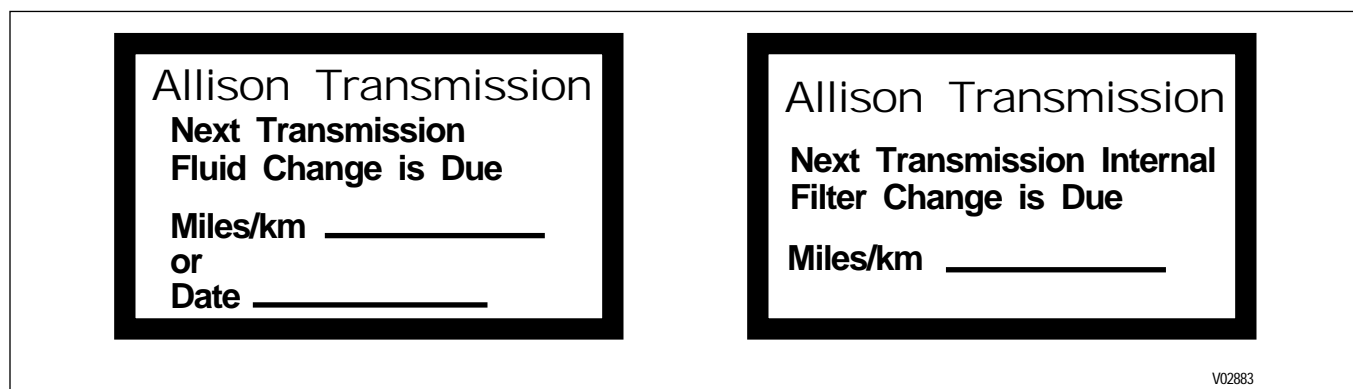

Figure 3-6. Fluid and Filter Change Reminder Labels
(14) Refer to Table 3-2 and determine when the next fluid and filter changes will be required. If labels are available (Figure 3-6), fill in the appropriate dates and affix the labels in a conspicuous location in the vehicle.